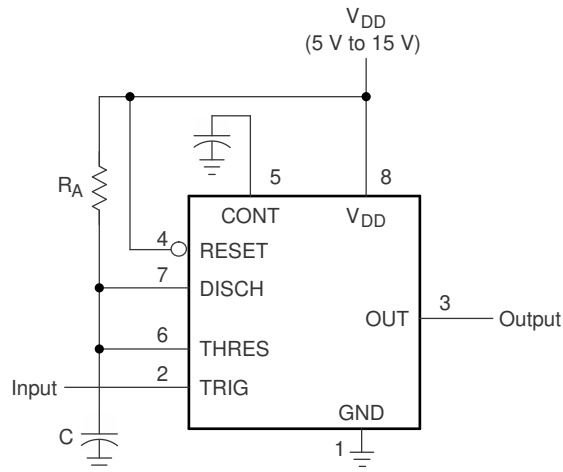
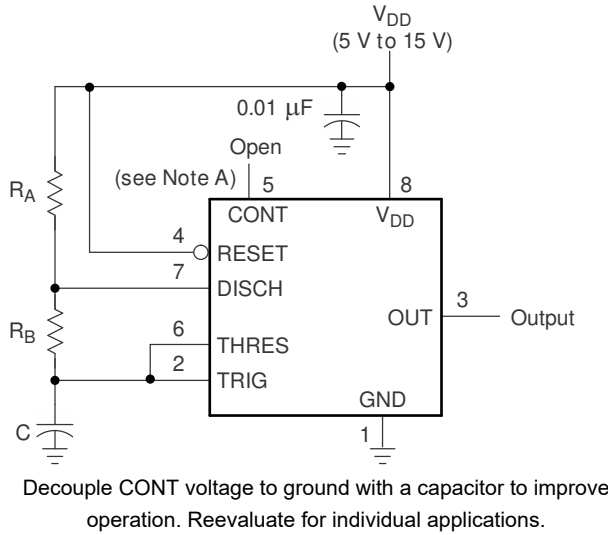
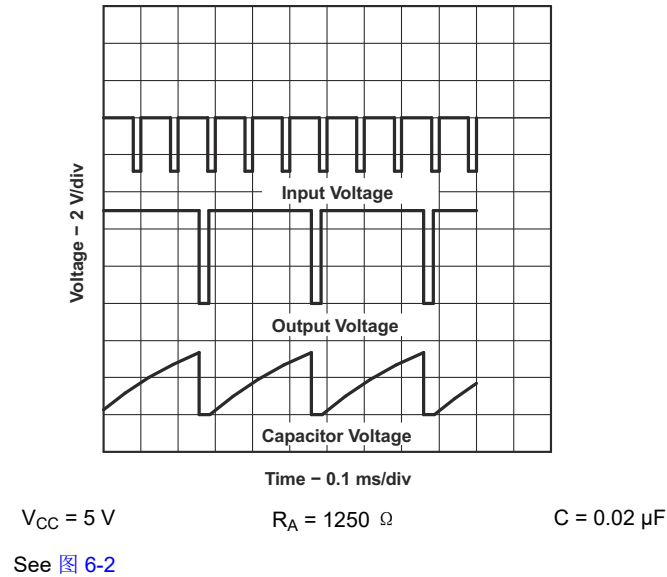

图 6-2. Circuit for Monostable Operation
图 6-5. Circuit for Astable Operation
图 6-9. Divide-by-Three Circuit Waveforms
(1) R_A , R_B , and C_T are as defined in 图 6-5.
For monostable operation, 图 6-2 shows how any of these timers can be connected. If the output is low, application of a negative-going pulse to the trigger (TRIG) sets the internal latch; the output goes high, and discharge pin (DISCH) becomes open drain. Capacitor C then is charged through R_A until the voltage across the capacitor reaches the threshold voltage of the threshold (THRES) input. If TRIG has returned to a high level, the output of the threshold comparator resets the internal latch, the output goes low, the discharge pin goes low, which quickly discharges capacitor C.
As shown in 图 6-5, adding a second resistor, R_B , to the circuit of 图 6-2 and connecting the trigger input to the threshold input causes the timer to self-trigger and run as a multivibrator. The capacitor C charges through R_A and R_B and then discharges through R_B only. Therefore, the duty cycle is controlled by the values of R_A and R_B .
By adjusting the length of the timing cycle, the basic circuit of 图 6-2 can be made to operate as a frequency divider. 图 6-9 shows a divide-by-three circuit that makes use of the fact that retriggering cannot occur during the timing cycle.